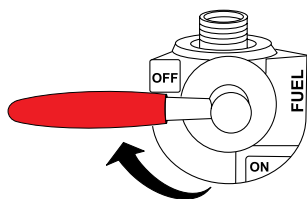

Figure 34. Fuel Tank Valve Lever (OFF)
1. Place the fuel tank ON/OFF valve lever (Figure 34) in the OFF position.